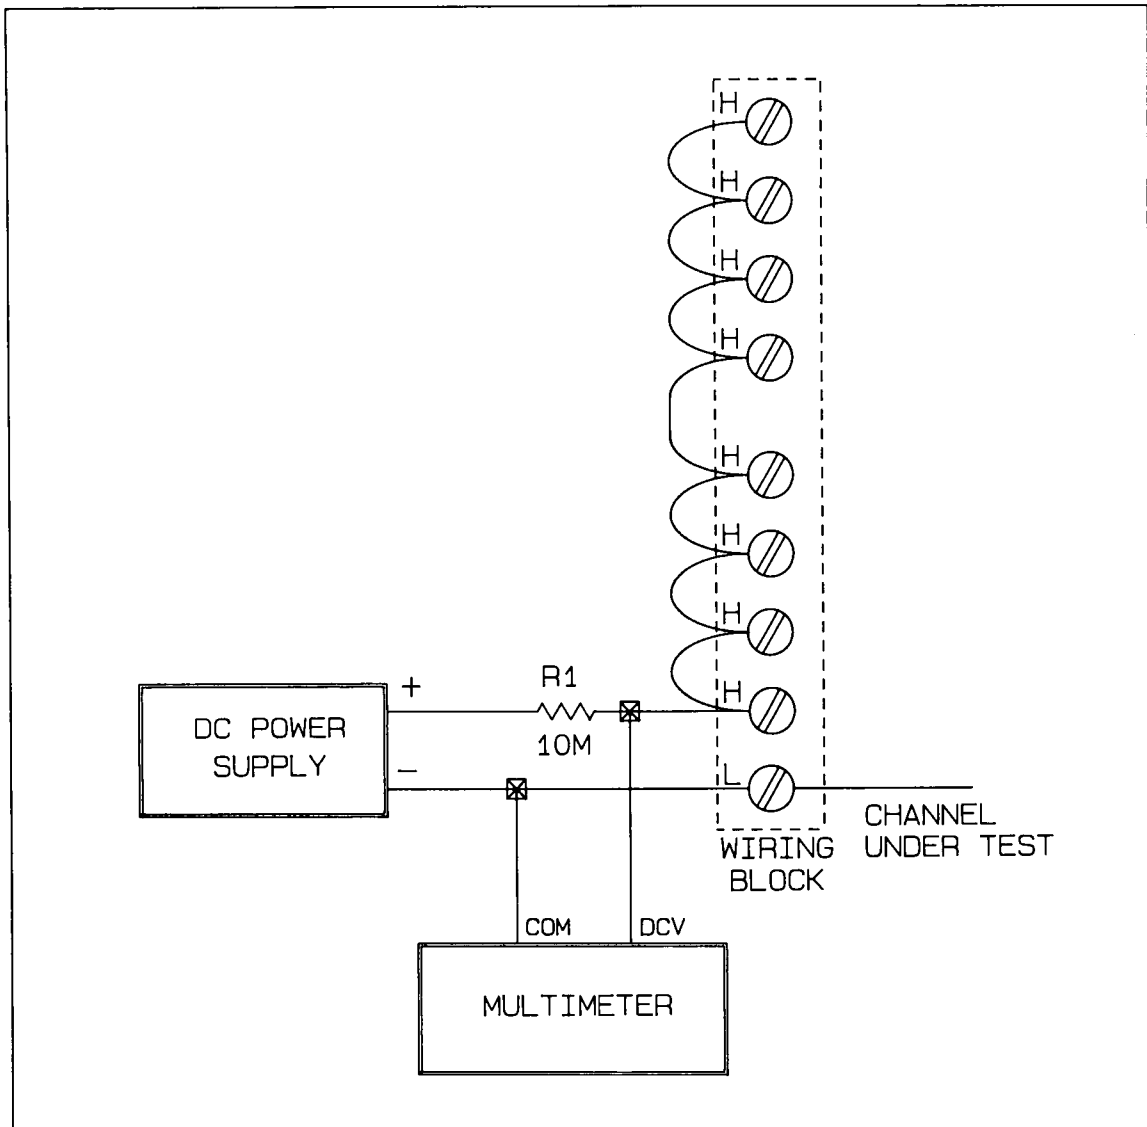

Figure 11-7 Row Or Column High To Low Test Circuit #1
14. Connect the shorted lines and the low line of the channel under test (row 0 to start) into the test circuit as shown in Figure 11-7.